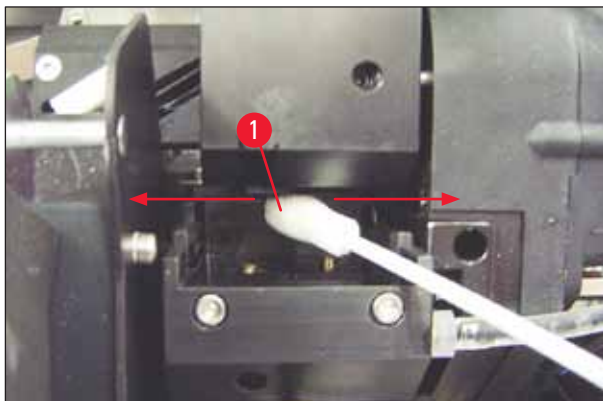

Fig. 54
5. Carefully insert the swab into the gap under the print head (→ "Fig. 54"). Apply light pressure upwards (on the print head) and move the foam swab back and forth (approx. 10 times). This procedure removes dried ink residues.